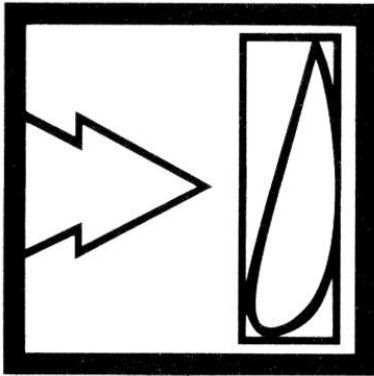

figure 6a
2. Position blade as shown in drawing (it is essential the blade is inserted the correct way round see *figure 6a*) push blade into socket until fully home.